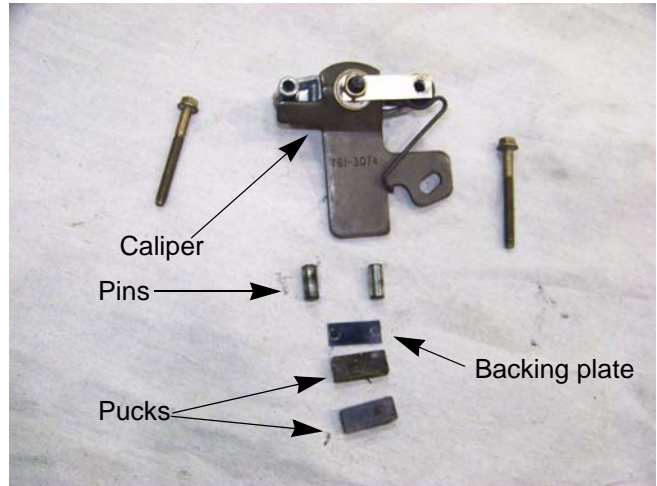

Figure 3.7
6. With the caliper on a work bench, remove the brake puck, backing plate and the two brake pins. See Figure 3.7.